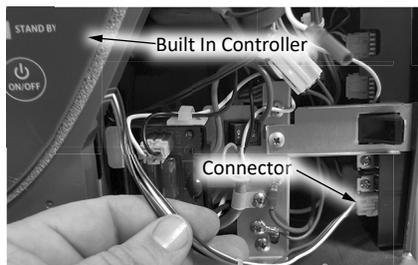

Figure 88: Built-in controller removal.
- 7 Attach the built-in controller to the front of the water heater. Reconnect the wire from the built-in controller to the computer board. See Figure 88.